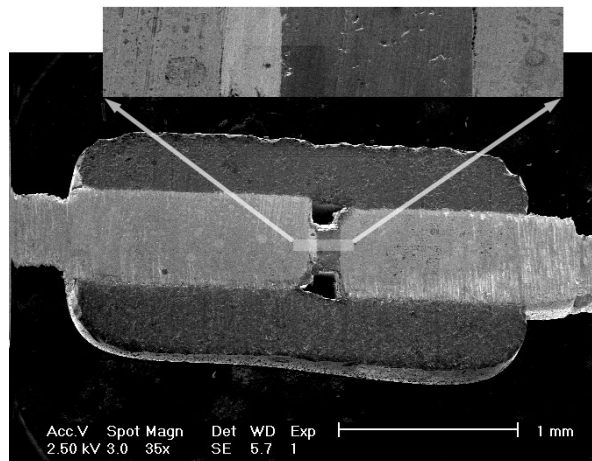

Figure 7 Cross sectional scanning electron microscopy image of BAT85 SBD
- Give a range of metals that would make a Schottky contact with n-type Si and illustrate why. Outline a reasonable choice of materials for the BAT85 SBD cross section below (Fig. 7). How would you make sure a Schottky contact is formed on one side and an Ohmic contact at the other side of the Si.
c. *Schottky barrier height.* Discuss deviations from the ideal model, which assumes the barrier to be the difference between the work function for the metal and the electron affinity of the semiconductor. Draw band diagrams including surface states. Discuss techniques to confirm that the barrier height is 0.5 eV as assumed for the SBD. Starting with the BAT85 SBD cross section above (Fig. 7), discuss materials choices and fabrication of Schottky contacts in current IC technology.